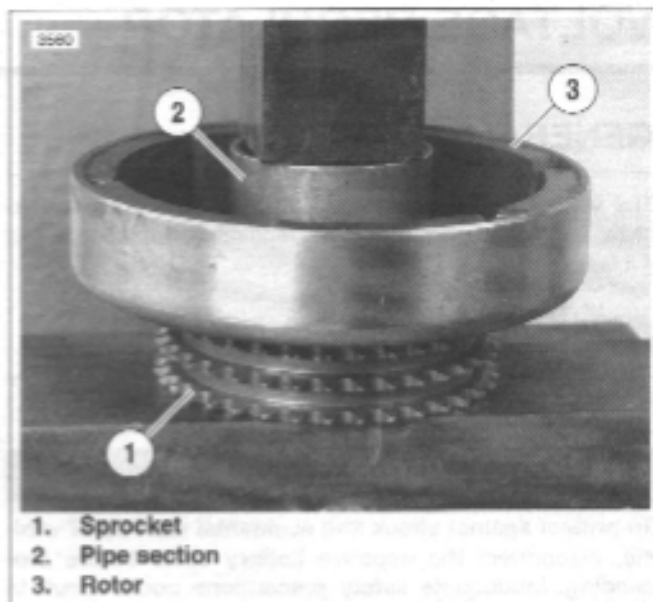

Figure 7-32. Pressing Rotor onto Sprocket
5. See Figure 7-32. Attach rotor to sprocket.
- a. Position rotor (3) on sprocket (1). Align holes in sprocket with holes in rotor.
- c. Position a section of pipe (2) with an inside diameter larger than the sprocket mounting hub over center of rotor. Press rotor onto sprocket. Tighten fasteners to 90-110 in-lbs (10-12 Nm).